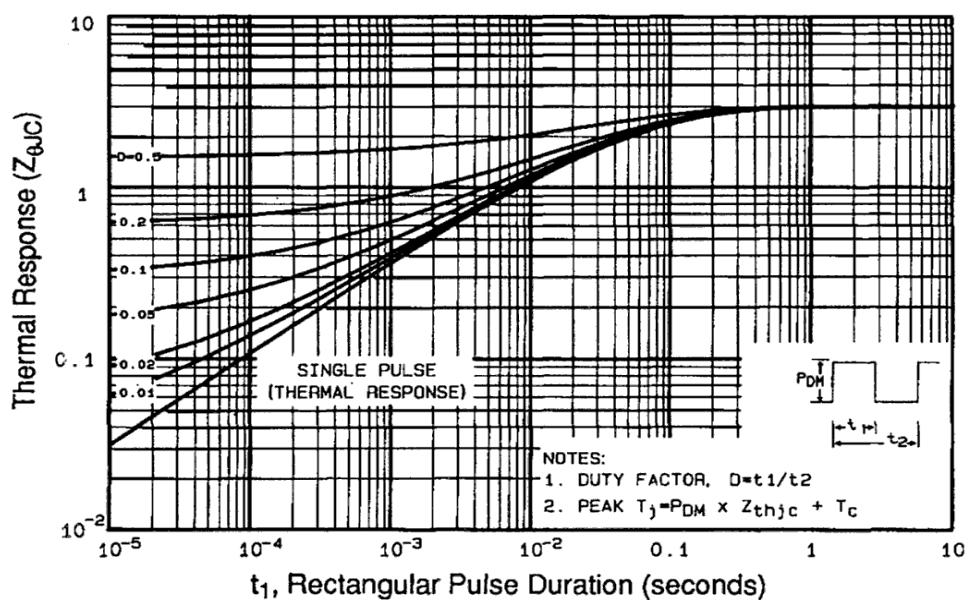

Fig 11. Maximum Effective Transient Thermal Impedance, Junction-to-Case
① Repetitive rating; pulse width limited by max. junction temperature (See Figure 11)
③  $I_{SD}\leq 17\text{A}$ ,  $dI/dt\leq 140\text{A}/\mu\text{s}$ ,  $V_{DD}\leq V_{(\text{BR})\text{DSS}}$ ,  $T_J\leq 150^\circ\text{C}$